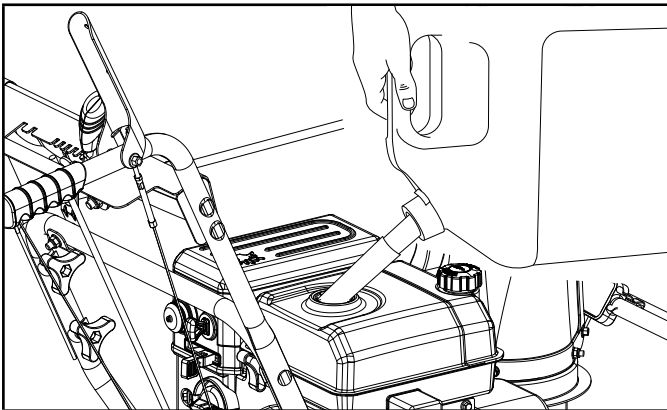

Figure 13
2. Add fuel to the bottom of the fuel level limit in the neck of the fuel tank. Do not overfill. Wipe up spilled fuel before starting the snowblower. Fuel tank capacity: 0.7 gal. (2.6 L) (Fig. 13).